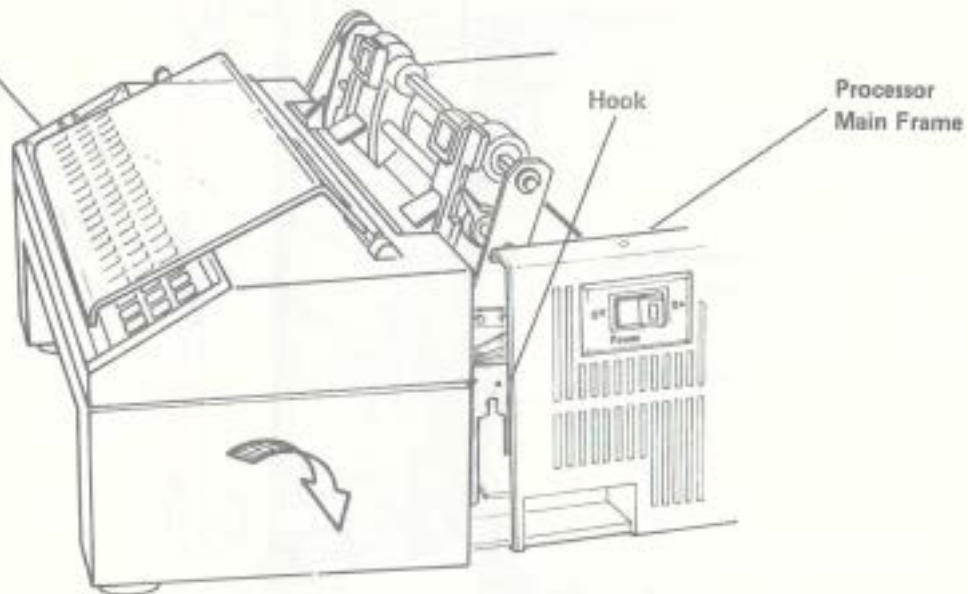

Figure 5-19. Printer/Plotter Replacement
10. Disconnect the fan AC connector. See Figure 5-19.
7. Holding the printer/plotter by the front, lift the assembly and push forward and then down until the hooks latch onto the studs on the processor unit. Check that the cables are not crimped between the assemblies. See Figure 5-19.